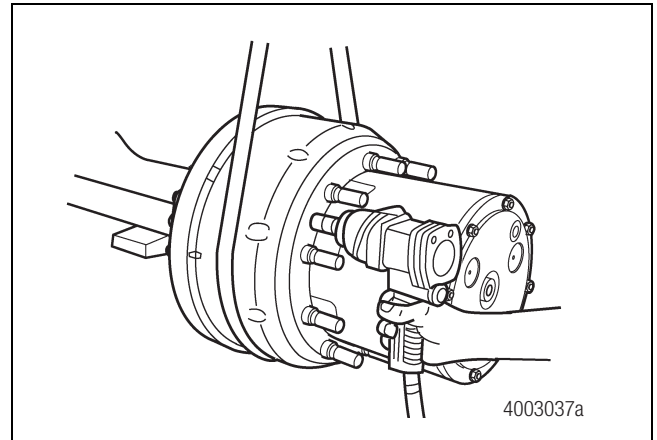

Figure 9.1
- **If the drum is difficult to remove:** Install three M12 x 1.75 bolts into the push holes. Tighten the bolts sequentially until the drum separates from the hub. Figure 9.1.
2. Install the five brake drum holding capscrews and tighten them to 45-55 lb-ft (60-75 N•m). Figure 9.1.